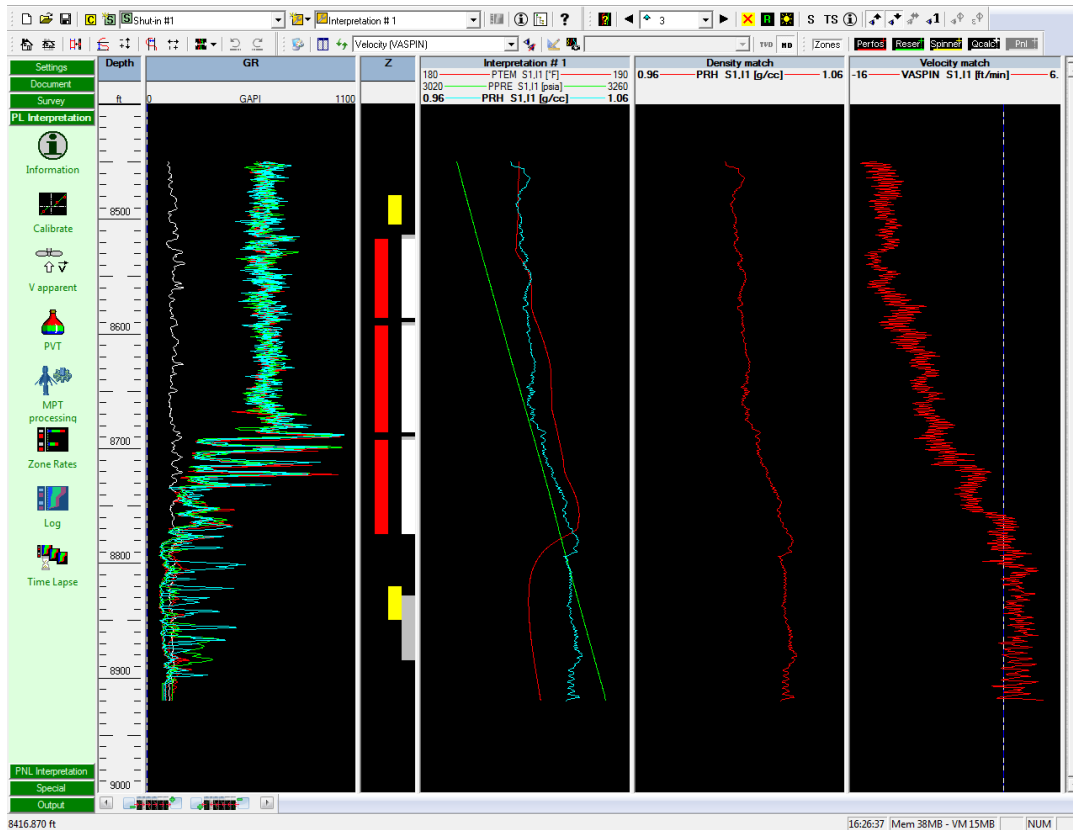

Fig. B02.15 • Bottom calculation zone moved down and extended
- Resize/move the bottom deep grey zone to a lower position. To do so, click on that zone in the Z view, then drag its handles (on the top and bottom of the zone), Fig. B02.15.